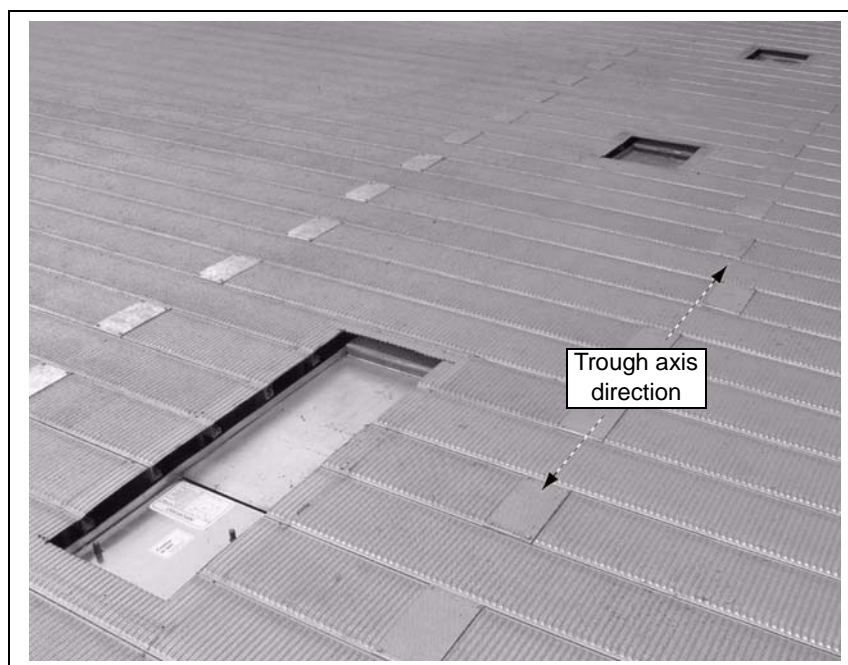

Figure 4E
5. Layout the aeration floor and cut the opening around the gates (57). Refer to Page 53 for rough opening dimensions. *(See Figure 4E.)*